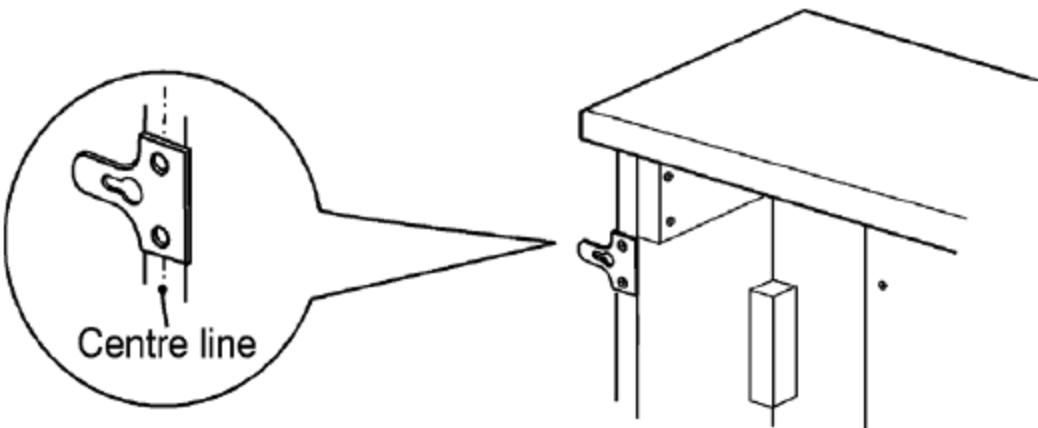

Figure 3. Securing the suite (Bracket design may differ from that shown)
1. Place the wall fixing brackets as shown in figure 3. Ensure that the two fixing holes in the brackets are positioned in the centre of the outside edge of the leg. The wood may split if the fixing holes are not central. Secure in place using four 15mm long screws.